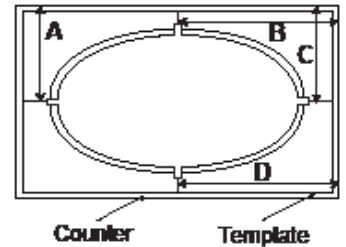

Fig. 8
- Measure the distance from the wall, or other fixed point, to the center lines, Figure 8.